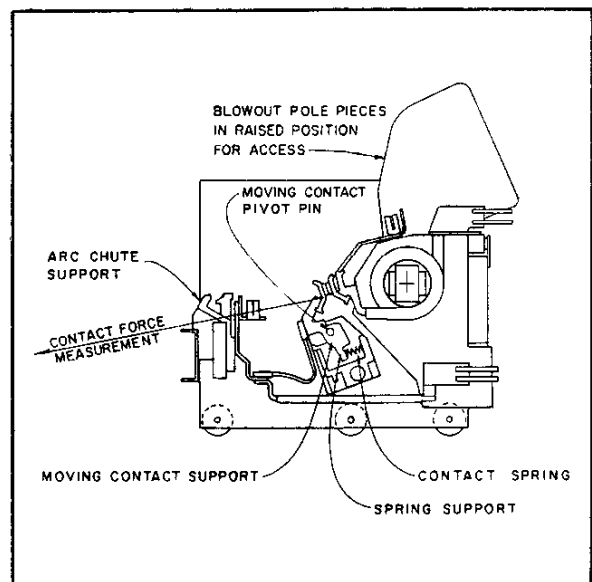

Fig. 9 Contact Force Measurement (Dwg. 5249C60)
To obtain access to the contacts and shunts for tightening or replacement, remove the phase barrier and arc chutes and rotate the magnetic blowout pole pieces upward to the vertical position as shown in Figure 9.
- 3) Check initial contact forces. Contact forces measured at the heel of contact inlays as shown in Figure 9 are as follows:
To measure the initial force the armature should be blocked within .06" - .12" of the contact touch point. Force is then conveniently measured by looping a piece of string around the heel of the moving contact face and pulling in a direction perpendicular to the contact face as indicated in Figure 9. A small spacer of cardboard or wood approximately 3" long should be suspended between the two strands of string to avoid interference with the arc chute support insulator.